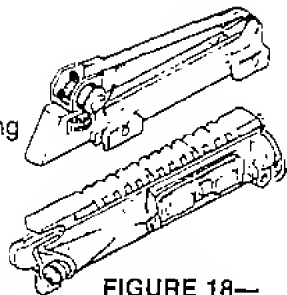

FIGURE 18—
Clean and lubricate (as described on page 56 and 57 items 11, 12 and 13.) Lightly lubricate the two securing screw threads and make sure the flat top of the rifle is clean and free from damage. (See Figure 18.)